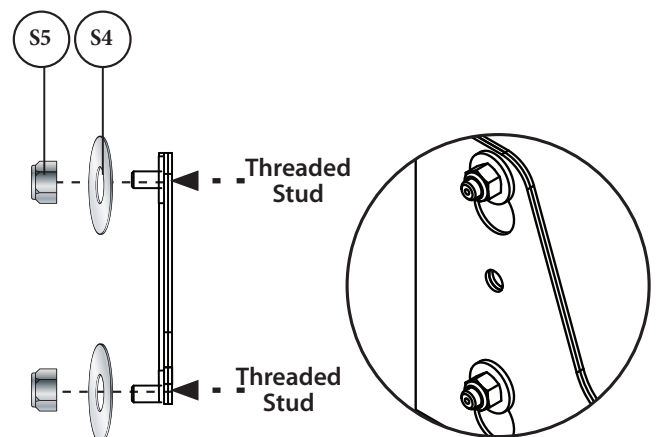

FIG. 5
Secure the Mounting Bracket (F) in place using two Flat Washers (S4) and two Nylock Nuts (S5) [FIG. 5].